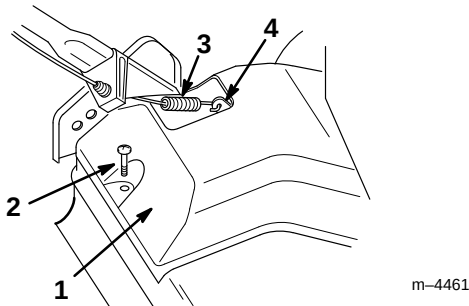

Figure 31
1. Remove the screw from the belt cover (Fig. 31).
2. Unhook the cable spring from the drive bracket (Fig. 31).